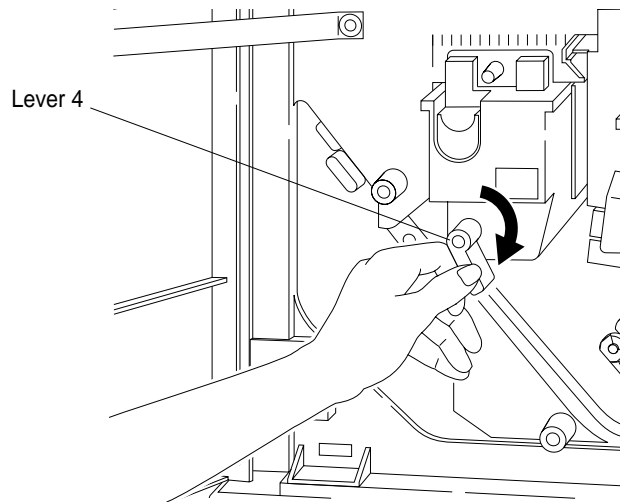

Figure 3-56 Opening Lever 4
1. Open the front door and turn Lever 4 fully clockwise, shown in Figure 3-56. This removes pressure on paper leaving the fuser unit area.